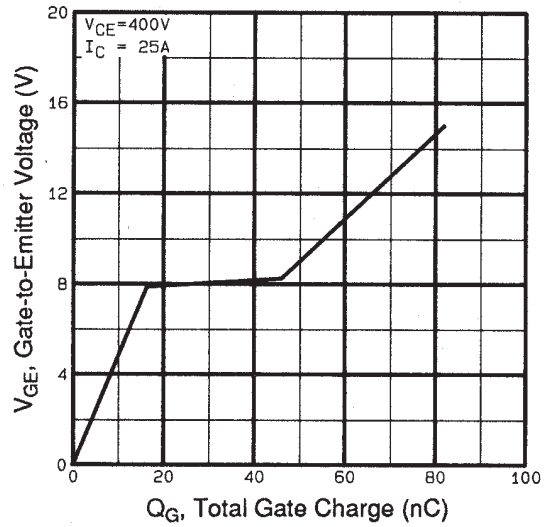

Fig. 8 - Typical Gate Charge vs. Gate-to-Emitter Voltage
| Q_g | Total Gate Charge (turn-on) | — | — | 100 | nC | $I_C = 25A$ $V_{CC} = 400V$ $V_{GE} = 15V$ See Fig. 8 ⑤ |